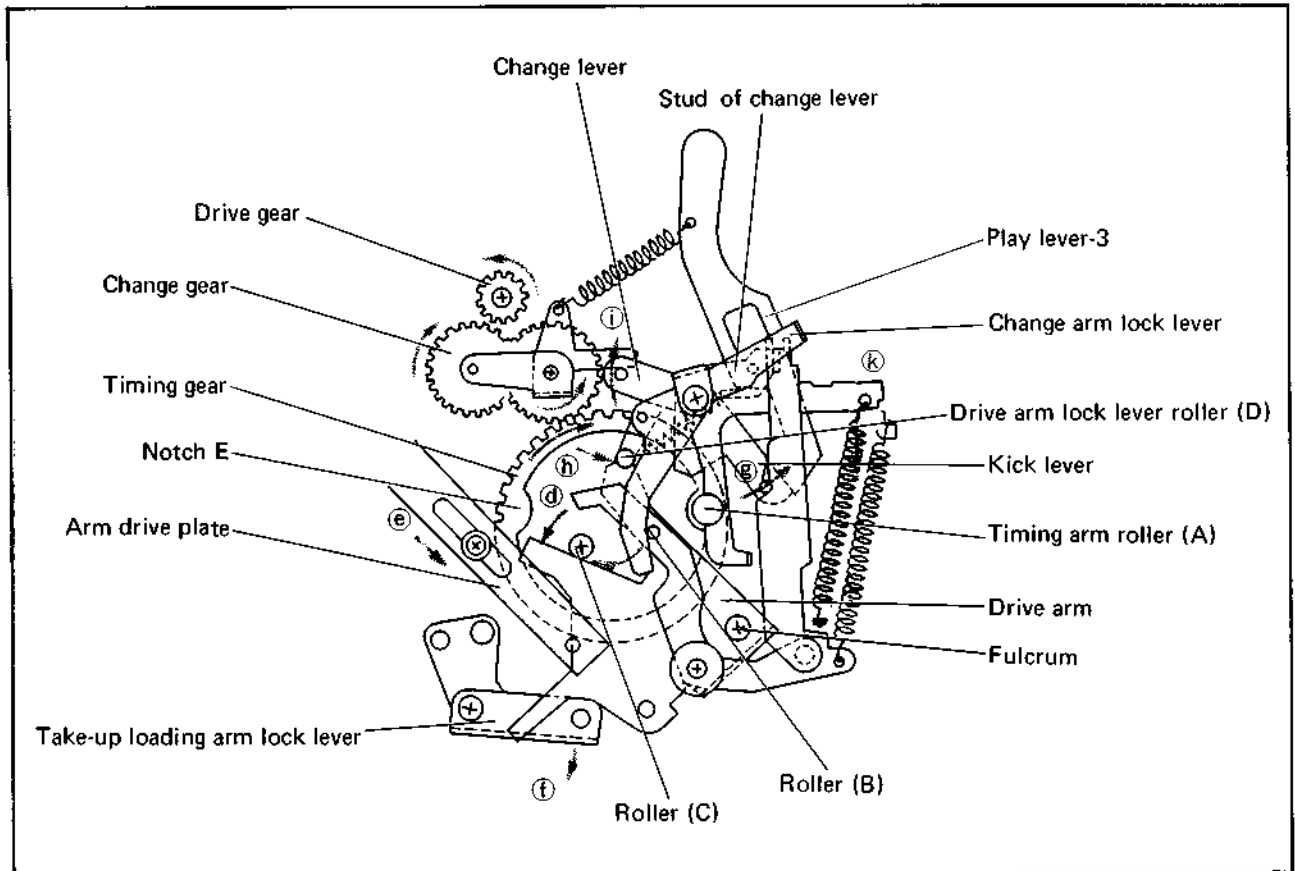
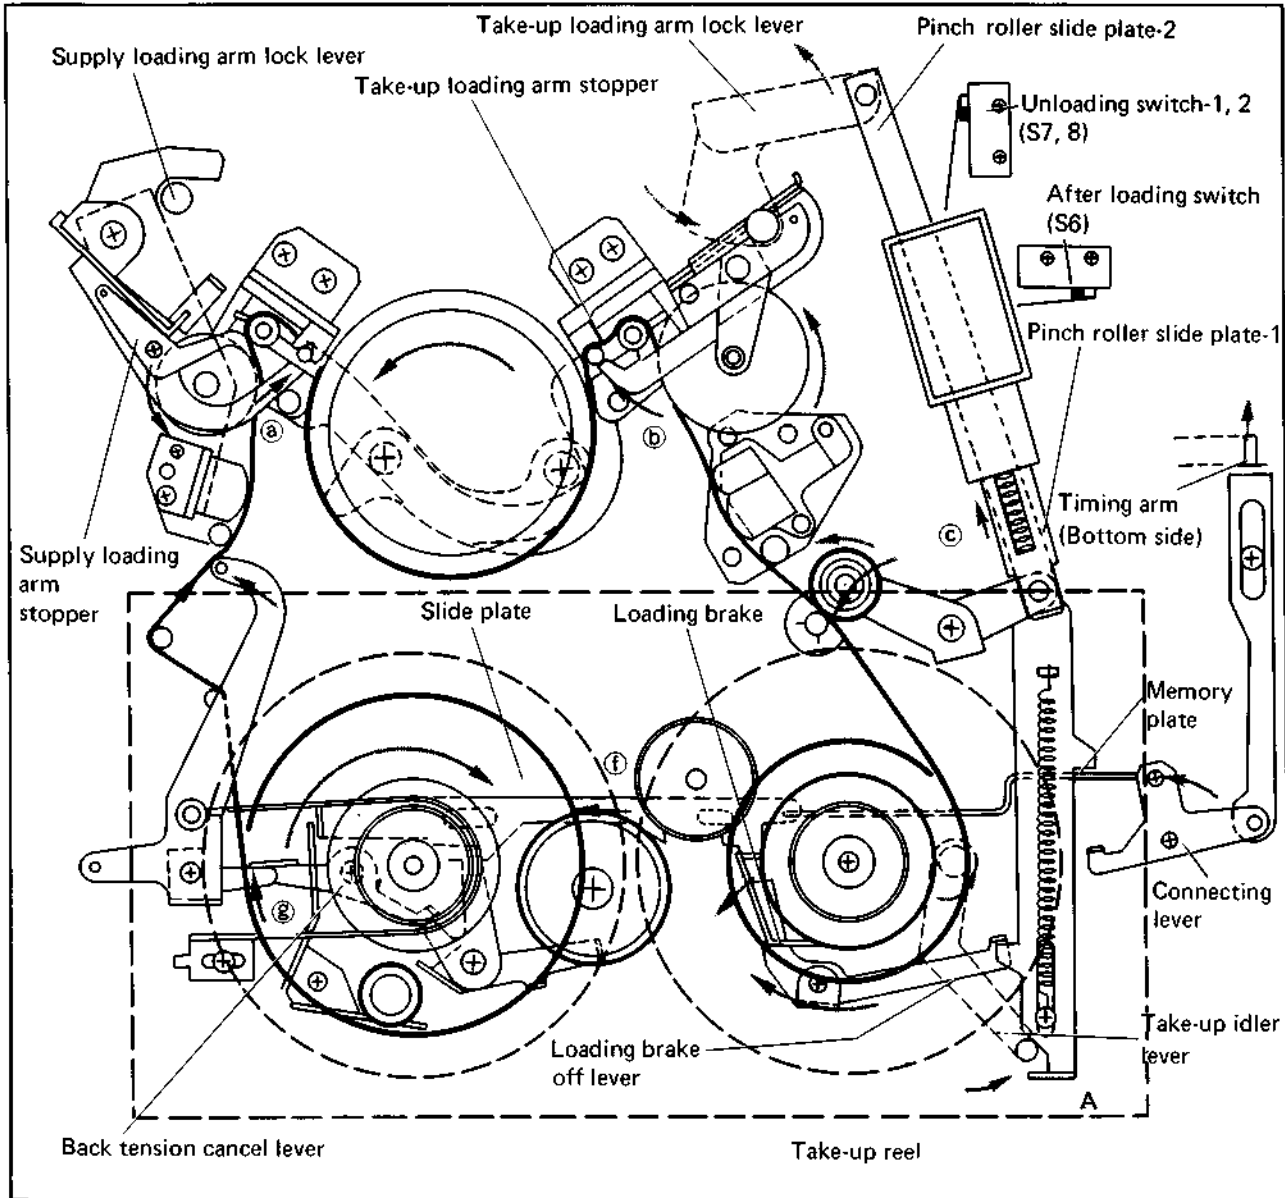

Fig. 2-12 Play mode mechanism (Bottom view)
Fig. 2-13 Play mode mechanism (Top view)
Refer to Fig. 2-12. Roller C rotation moves the drive arm in direction ④ and the arm drive plate in direction ⑤. When the loading arm reaches the end of loading, drive arm movement ④ is applied only to the drive arm plate and the take-up loading arm lock lever. Loading arm movement then stops.
See Fig. 2-13. The loading arm begins loading due to drive arm movement. When the loading arm reaches the end of loading, rotation of the drive arm through the take-up loading arm lock lever and the supply loading arm lock lever moves the take-up and supply arm stoppers in directions ⑩ and ⑪. The loading arm then becomes locked at the arm stopper. With movement of the supply arm stopper, the full erase head and guide pole are shifted to the Play mode position. Tape traveling at this time is determined by the edge of the guide pole.
Following this, the timing gear (Fig. 2-12) continues to rotate and when roller C engages with notch E, the change gear becomes stopped. At the same time, the timing arm (Fig. 2-12) moves in direction (k) and the slide plate (Fig. 2-13) in direction (f).
When the slide plate moves toward the left, the supply loading brake is released from the supply reel disk and the back tension cancel lever (Fig. 2-13) turns clockwise (g). Supply back tension becomes applied and Play mode is obtained.